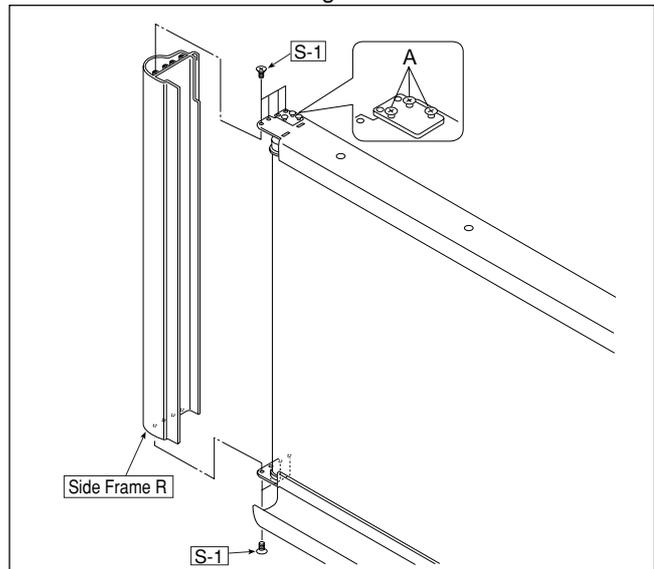

Fig. 2
### 2) Remove the Side Frame R. (See Figure 2.)
1. Loosen the screw shown in portion A of Figure 2. (Tightening torque: 10.0kgfcm)
2. Remove the “S-1” screw shown in Figure 2 and then remove the Side Frame R. (Tightening torque: 10.0kgfcm)